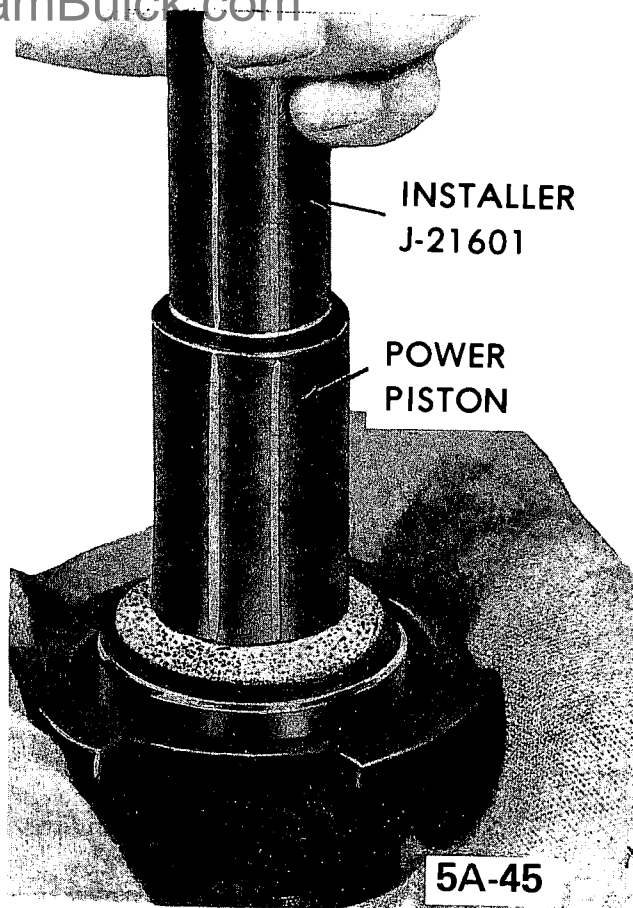

Figure 5A-45 Installing Floating Control Valve Assembly
10. Start floating control valve and its retainer into power piston tube. Press the floating control valve to seat in the tube, by placing J-21601-01 Floating Control Valve Retainer Installer on top of retainer and pushing down by hand. See Figure 5A-45.
15. Holding support plate by metal, with locking tangs down, place support plate and diaphragm assembly over tube of power piston. The flange of diaphragm will fit into groove on power piston. See Figure 5A-46.